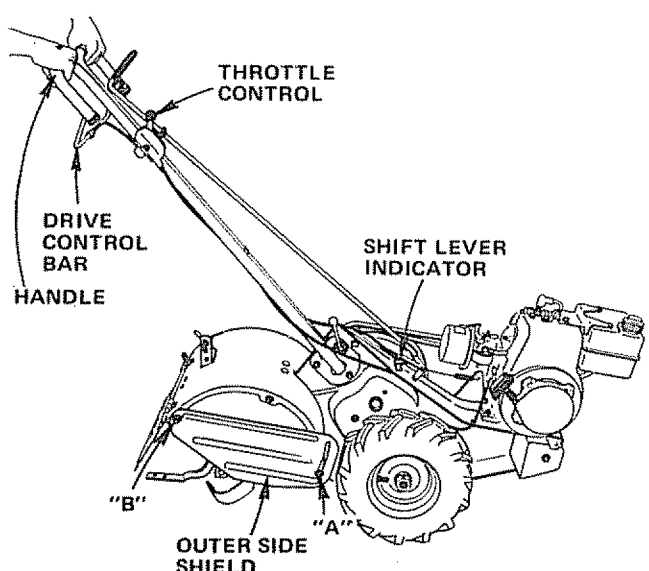

FIGURE 17
- c. Hold the Drive Control Bar against the Handle (Fig. 17) to start tilling movement. Tines and wheels both turn.
- d. Move Throttle Control (Fig. 17) to "START" for deep tilling. For cultivating move Throttle Control to desired speed.
- a. Release the Drive Control Bar (Fig. 17).
- b. Move Throttle Control (Fig. 17) to "S" (slow) speed.
- d. Hold the Drive Control Bar against the Handle (Fig. 17) to start tiller movement. Tines will not turn.
- a. TILLER MOVEMENT AND TINES WILL STOP QUICKLY WHEN DRIVE CONTROL BAR (FIG. 17) IS RELEASED.
- c. To stop engine, move Throttle Control (Fig. 17) to "STOP" position.
- d. Lift Handle to raise Tines out of the ground (Fig. 17).
The front of the Outer Side Shields (Fig. 17) are slotted so that they can be raised for deep tilling and lowered for shallow tilling to protect small plants from being buried. Loosen Nut "A" in slot and Nut "B". Move Shield to desired position (both sides), Retighten Nuts.
Cultivating is destroying the weeds between rows to prevent them from robbing nourishment and moisture from the plants. At the same time, breaking up the upper layer of soil crust will help retain moisture in the soil. Best digging depth is 1" to 3". Lower Outer Side Shields (Fig. 17).